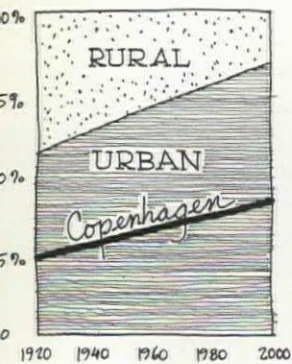

Fig. 2—Population change
1) **RATE OF GROWTH**—This would reflect mainly on Copenhagen as a center of production, trade and administration. It would absorb half of Denmark's urban population increase, a growth of a million by the year 2000 (Fig. 2).